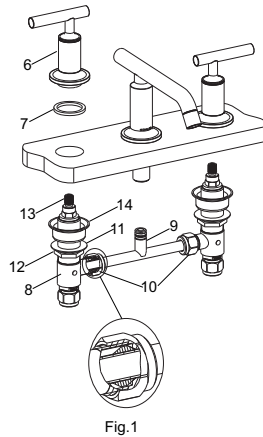

Fig.1
Trim the tee-piece(9) to suit the basin hole centres. Loosen the nuts(10) on the side bodies, and assemble the tee-piece to the side bodies as Fig.1 shown. Tighten the nuts(10) by hand.
Install the rubber washers(7) on the side bodies. Press the handle kits(6) onto the spline adapter(13), and tighten the handle kits(6) until they contacts the deck as Fig.1 shown.